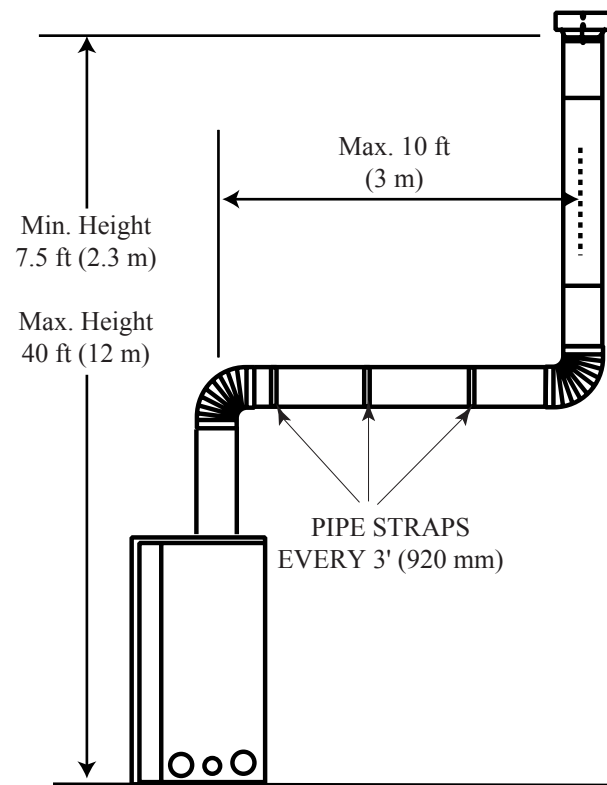

Fig. 32
- Vertical installations up to 40' (12 m) in height. Up to a 10' horizontal vent run can be installed within the vent system using a maximum of two 90° elbows. (Fig. 32)